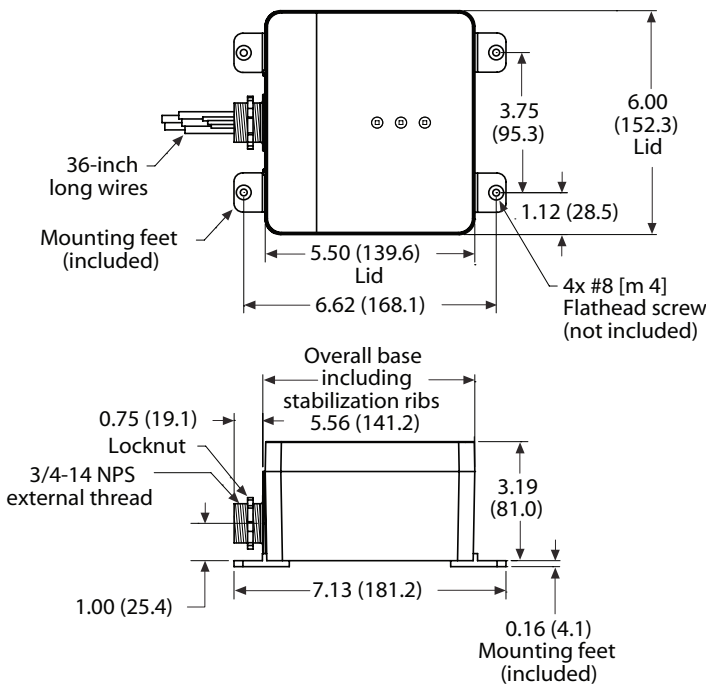

**Figure 3. Alternate installation.**
**WHEN USING CONDUIT, AVOID USING 90° ELBOWS AND KEEP THE CONDUIT RUN AS SHORT AND STRAIGHT AS POSSIBLE. SEE FIGURE 3.**